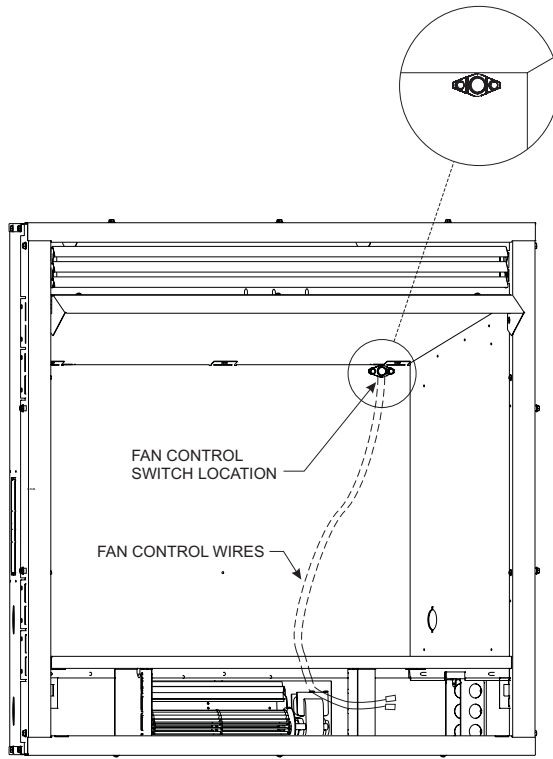

Figure 16
6. Next, find the fan control switch and wire assembly. Feed the wires through the hole at the top of the firebox, and secure the fan control switch with two #6 screws provided. **See Figure 16.**
7. The fan control wires will slide down between the firebox and outer wrap near the blower assembly. **See Figure 16.**